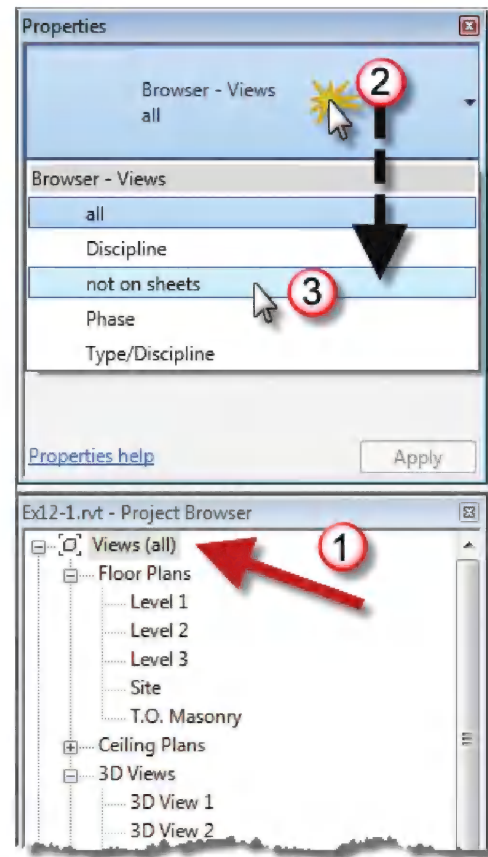

FIGURE 14-1.12 Project Browser and Type Selector
29. Select **Views (all)** at the top of the *Project Browser* (Figure 14-1.12).
30. In the *Type Selector*, pick **not on sheets** (Figure 14-1.12).
32. Using the process just described, set the *Project Browser* back to **All** (Figure 14-1.12).